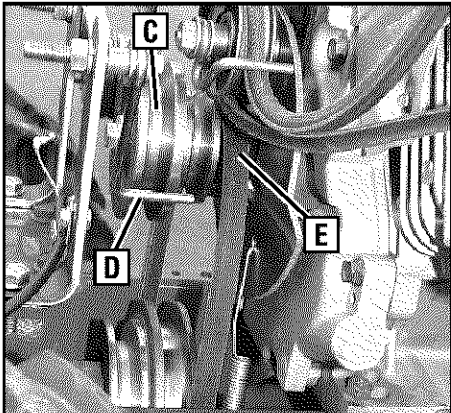
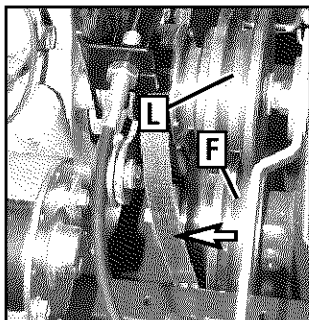

Figure 5-18: Right-side view.
Figure 5-19: Left-side view.
5. Slide the belt off the engine pulley (C, Figure 5-18), away from engine, out from under the belt guide (D), and completely off the pulley.
6. Slip the belt off the front of the transmission pulley (F, Figure 5-19).
4. Insert the bottom half of belt into the smaller, rear-most groove of the transmission pulley (F, Figure 5-19). Now slip the top half of belt under the belt guide (D, Figure 5-18) and onto the large groove of engine drive pulley (L, Figure 5-19).